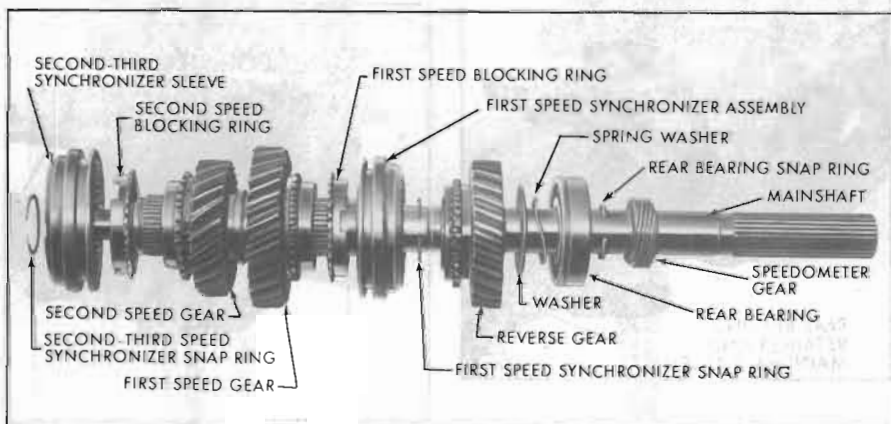

Figure 72-10—Exploded View of Mainshaft
1. Remove second-third synchronizer sleeve. See Figure 72-10.